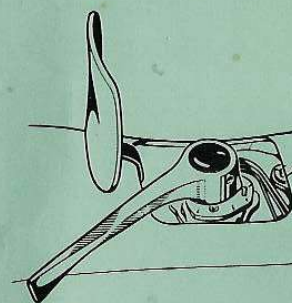

Fig. 67
- Insert cam-group into machine (Fig. 67).
- With needle in its highest position, bring handle in position 1 (handle completely on the left) Fig. 67.